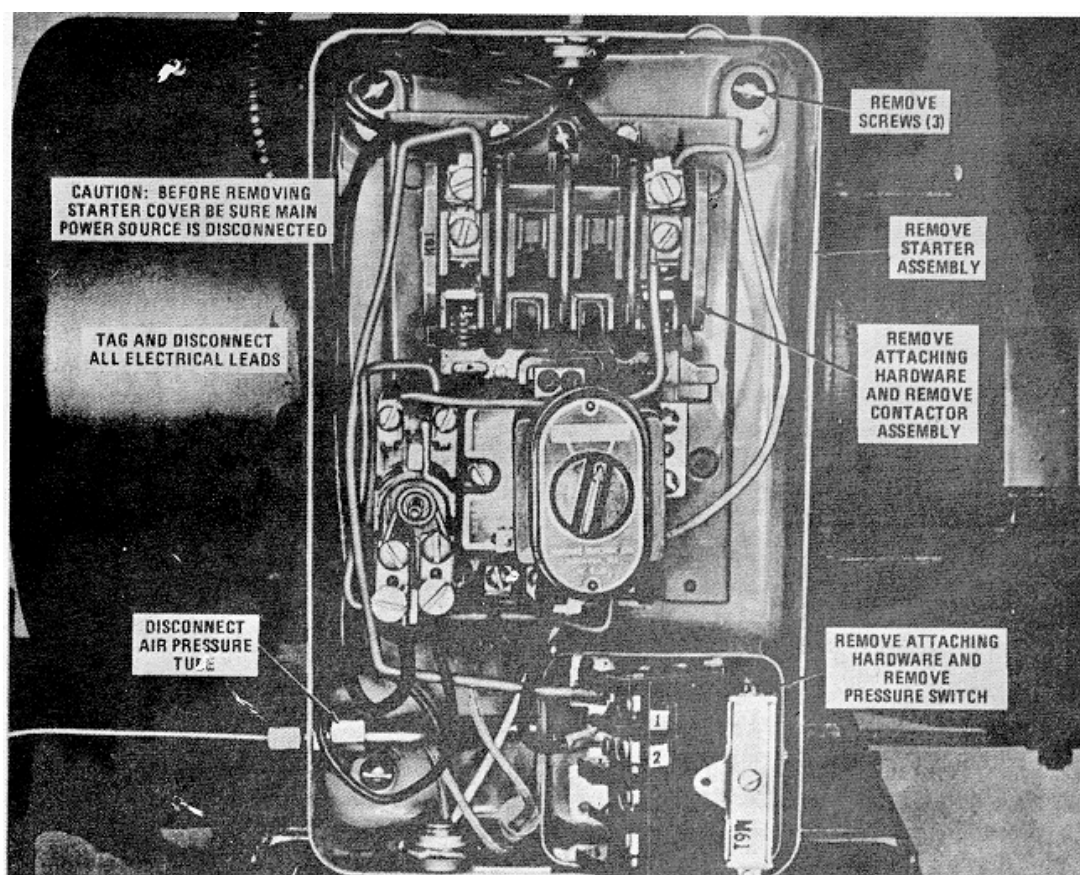

Figure 12. Magnetic starter with pressure switch, removal and installation (shown with cover removed)
1. Removal. Remove the magnetic starter as instructed on figure 12.
2. Disassembly. Refer to figure 12 and remove magnetic starter components as instructed.
4. Reassembly. Refer to figure 12 and reassemble magnetic starter components.
5. Installation. Install the magnetic starter as illustrated on figure 12.